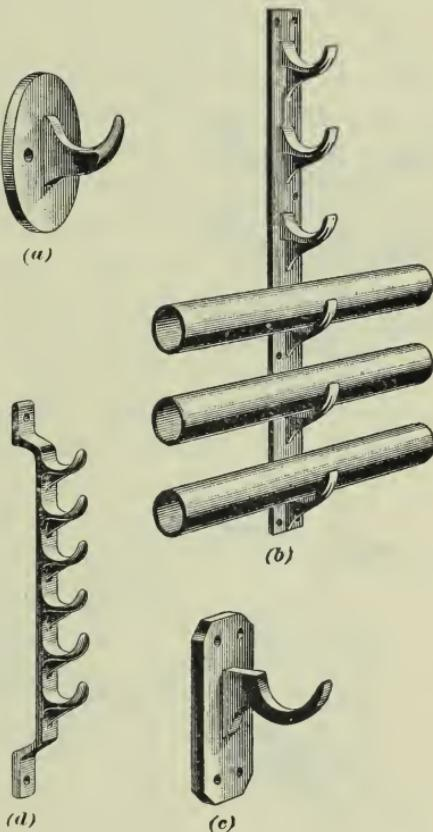
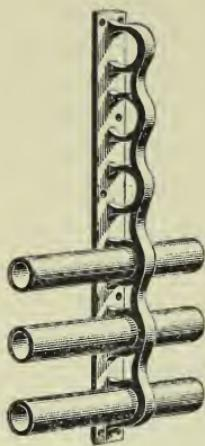

FIG. 51
FIG. 52
**72.** **Hook plates** are used to support heating pipes where they are assembled in the form of coils, or other pipes that run parallel to one another. In Fig. 51 (*a*), a **single hook plate** of the common pattern is shown; a **multiple hook plate** of the same pattern is shown in Fig. 51 (*b*); a **single offset hook plate** is shown in Fig. 51 (*c*), and a **multiple offset hook plate** is shown in Fig. 51 (*d*). The ends are offset so that the pipes will be held clear of any small projections on the face of the wall. Hook plates are fastened to the walls with screws or expansion bolts. Care should be taken in ordering hook plates to state the size and number of hooks, which latter are
generally called **branches**; thus, one ten-branch  $1\frac{1}{4}$ -inch hook plate, or one single  $1\frac{1}{4}$ -inch hook plate. If offset plates are to be used, state one ten-branch  $1\frac{1}{4}$ -inch hook plate, offset ends,  $1\frac{1}{2}$  inches (or as much as required). Offset hook plates are usually made to order. Hook plates similar to those shown in Fig. 51 can be had pressed out of sheet steel.
**73. Ring plates** have a ring for the pipe, as shown in Fig. 52, instead of the hook shown in Fig. 51. They are used in places where pipes would fall out if hooks were used, as at ceilings and on ships.